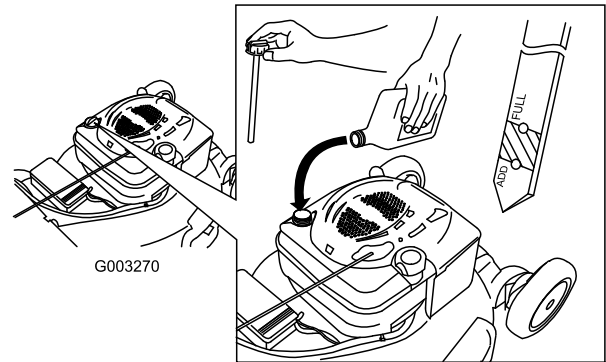

Figure 11
1. Remove the dipstick, wipe it clean, and fully install the dipstick (Figure 11).
2. Remove the dipstick and check the oil level (Figure 11). If the oil level is below the Add mark on the dipstick, **slowly** pour oil into the oil fill tube to raise the oil level to the Full mark on the dipstick. **Do not overfill.** (Max. fill: 20 oz. (0.59 l), type: SAE 30 detergent oil with an API service classification of SF, SG, SH, SJ, SL, or higher.)